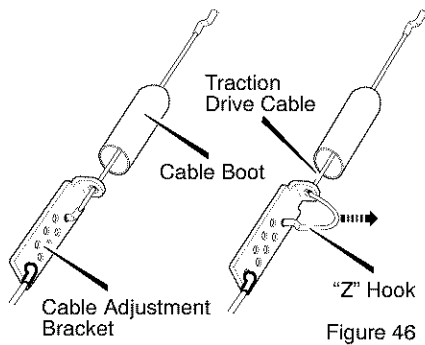

Figure 46
4. Slide the **cable boot** off the **cable adjustment bracket** (see Figure 46).